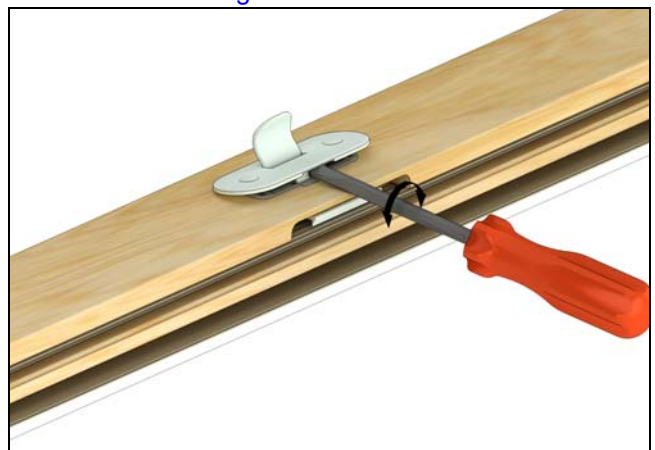

Figure 36
2. Remove escutcheon by placing a flat screwdriver in notch at the bottom between the escutcheon and plastic housing. Use a turning motion to release the escutcheon. See Figure 36.